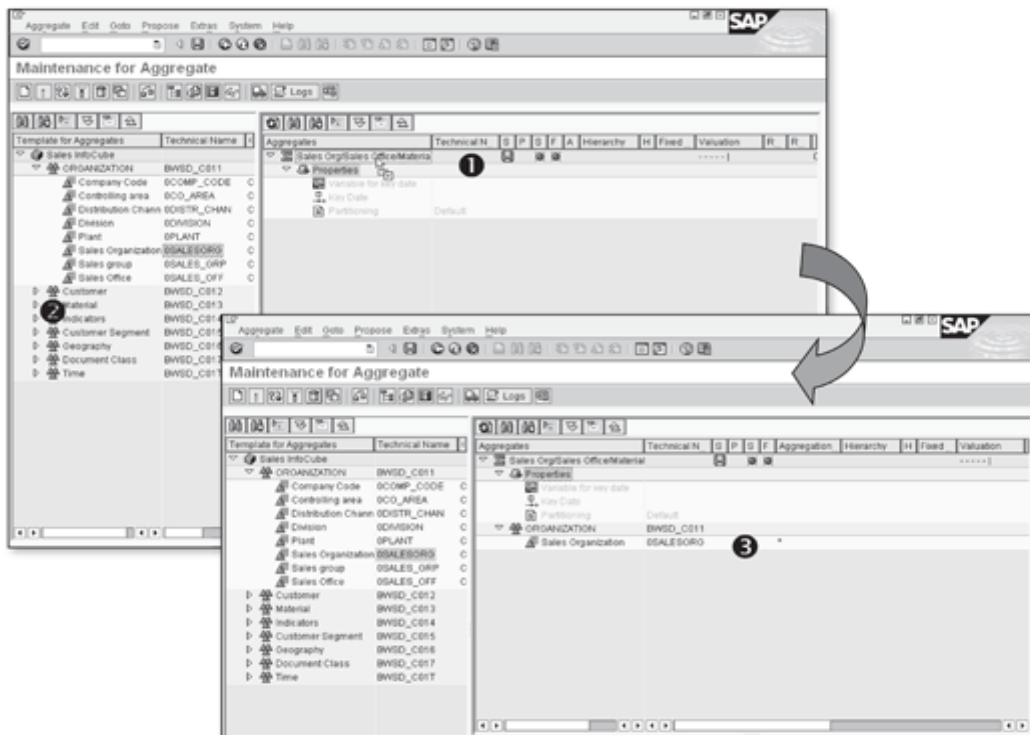

Figure 14.22 Add Characteristics to the Aggregate
By clicking the Expand icon (B) to the left of the aggregate name (on the right panel), the properties for the aggregate are visible (1 Figure 14.22). On the left panel, all characteristics are available within their respective dimensions. For the purpose of explanation, we select the Organization dimension; click the Expand icon to open the Organization dimension, and all of the characteristics that are part of this dimension for InfoCube BWSD_C01 are listed (2).